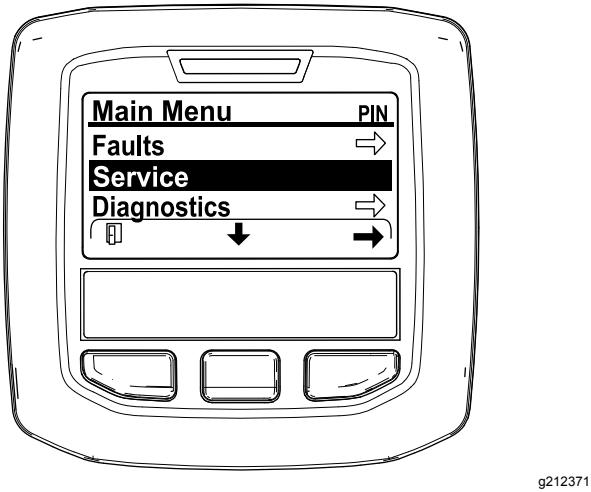

Figure 39
- Navigate to the MAIN MENU, press the center button to scroll down to the SERVICE MENU, and press the right button to select the SERVICE option (Figure 39).